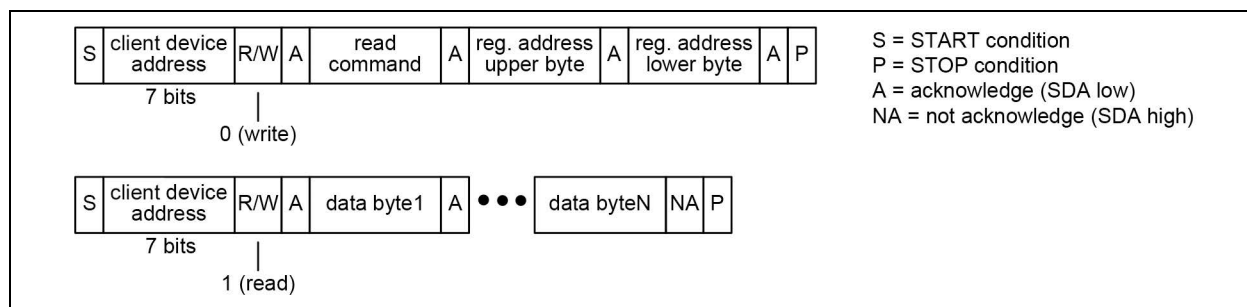
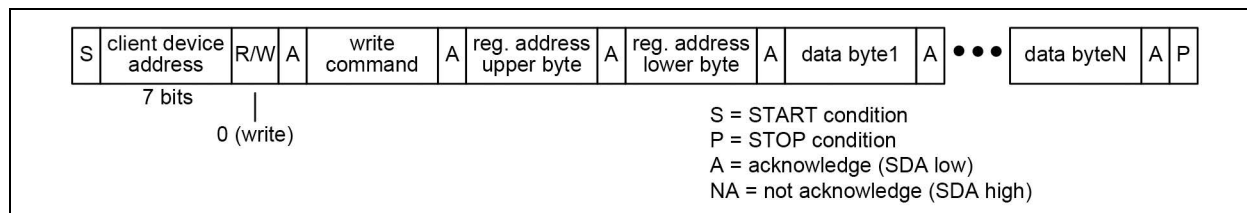

FIGURE 3-4: I²C Read Transaction Functional Timing.
FIGURE 3-5: I²C Write Transaction Functional Timing.
Read Transactions. The bus server first does an I²C write to the device. In this transaction three bytes are written: the SPI Read command (see Table 3-2), the upper byte of the register address, and the lower byte of the register address. The bus server then does an I²C read. During each acknowledge (A) bit the device fetches data from the read address and then increments the read address. The device then transmits the data to the bus server during the next 8 SCL cycles. The bus server terminates the read with a not-acknowledge (NA) followed by a STOP condition (P). See Figure 3-4. Note: If the I²C write is separated in time from the I²C read by other I²C transactions then the device only outputs the data value from the first address and repeats that same data value after each acknowledge (A) generated by the bus server.
Write Transactions. The bus server does an I²C write to the device. The first three bytes of this transaction are the SPI Write command (see Table 3-2), the upper byte of the register address, and the lower byte of the register address. Subsequent bytes are data bytes to be written. After each data byte is received, the device writes the byte to the write address and then increments the write address. The bus server terminates the write with a STOP condition (P). See Figure 3-5.
Note: In Figure 3-4 and Figure 3-5, a STOP condition (P) immediately followed by a START condition (S) can be replaced by a repeated START condition (Sr) as described in the I²C specification.